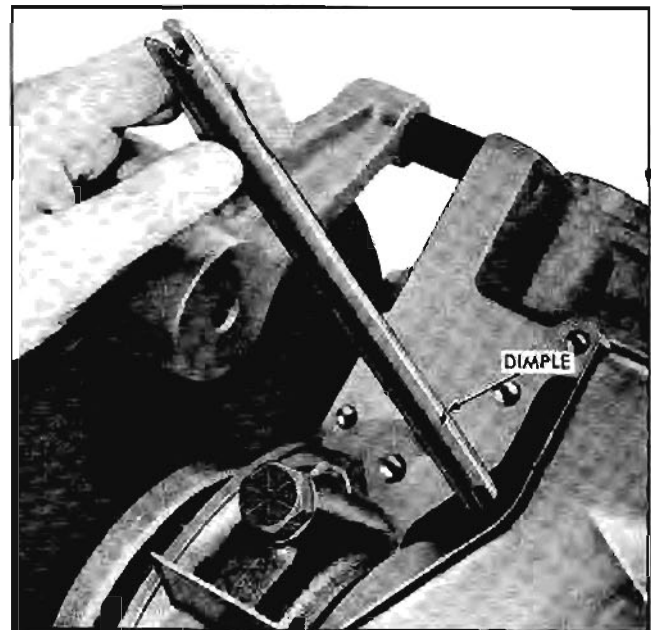

Fig. 6-60 Installing Pump Drive Shaft
13. Insert oil pump drive shaft with dimpled end towards block (Fig. 6-60).